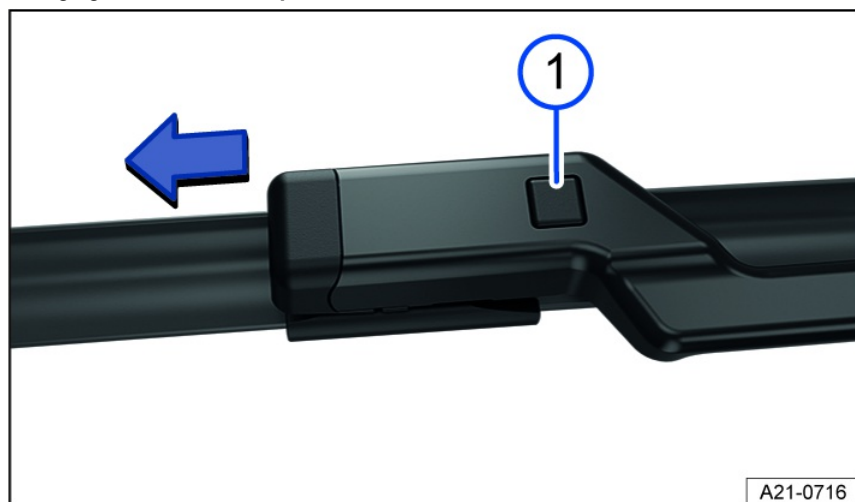

Fig. 138 Changing the windshield wiper blades.
① Wiper blade release button.
3. Press and hold the release button and remove the wiper blade at the same time in the direction of the arrow *fig. 138* ①.